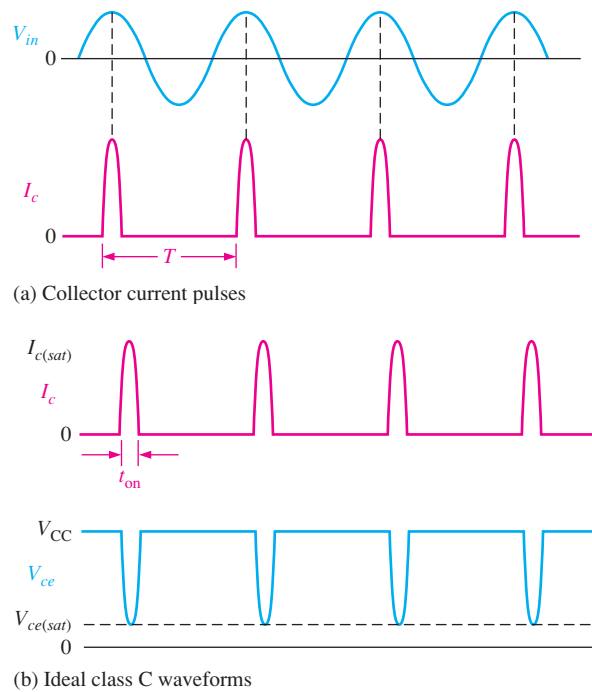

FIGURE 5-42 Class C waveforms.
The power dissipation of the transistor in a class C amplifier is low because it is on for only a small percentage of the input cycle. Figure 5-42(a) shows the collector current pulses. The time between the pulses is the period (T) of the ac input voltage. The collector current
and the collector voltage during the *on* time of the transistor are shown in Figure 5-42(b). To avoid complex mathematics, we will assume ideal pulse approximations. Using this simplification, if the output swings over the entire load, the maximum current amplitude is $I_{c(sat)}$ and the minimum voltage amplitude is $V_{ce(sat)}$ during the time the transistor is on. The power dissipation during the *on* time is, therefore,